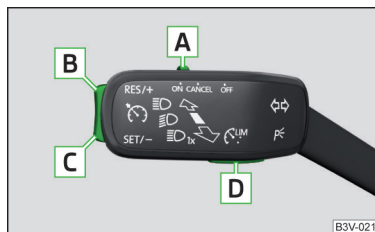

Fig. 292
Overview of the control elements of the CCS » Fig. 292
- By pressing the button **[D]** » Fig. 292 during the regulation this is cancelled and the Speed Limiter is activated.